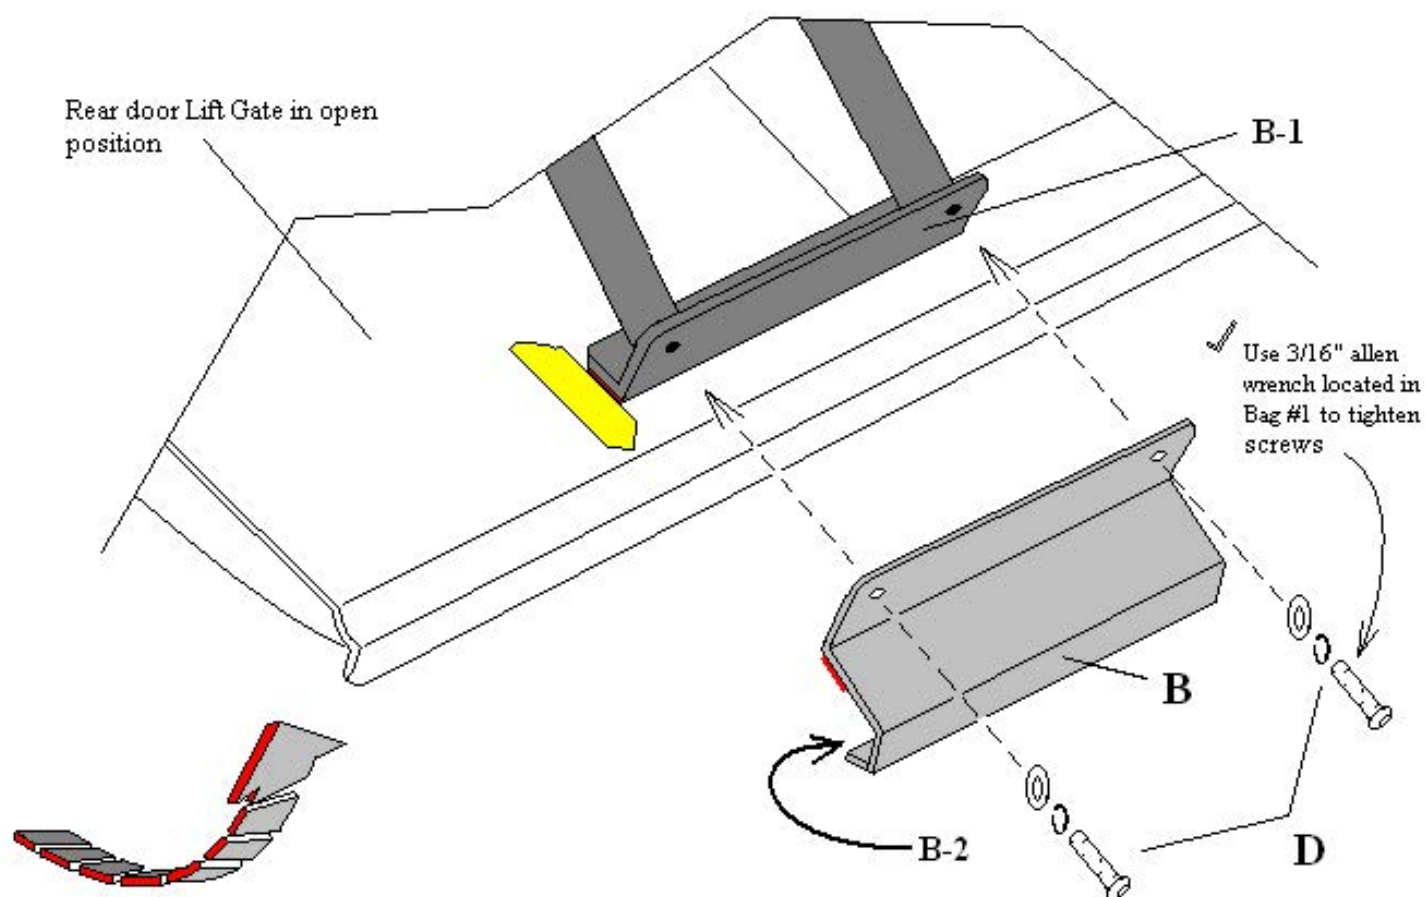
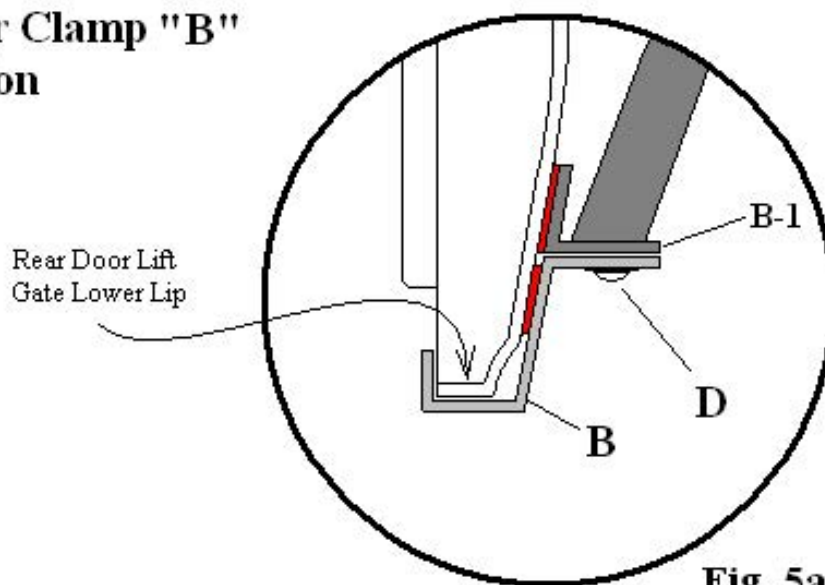

Fig. 5
Fig. 5a
- 7- Refer to page 8 Fig. 5 and Fig. 5a with the help of another person while still holding the ladder against the lift gate rear door open lift gate and install clamp "B" to the bottom of ladder "A" foot plate "B-1" and rear door lift gate as shown in Fig. 5 and Fig. 5a. Thread the two 5/16-18 x 1" button head screws, lock washers and flat washers "D" just recently removed back into the bottom of the ladder "B-1" using the 3/16" Allen wrench and fully tighten at this time.